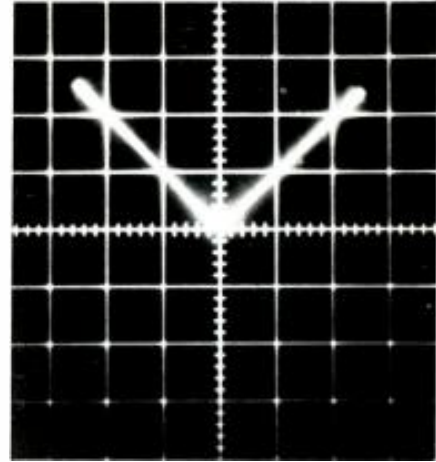
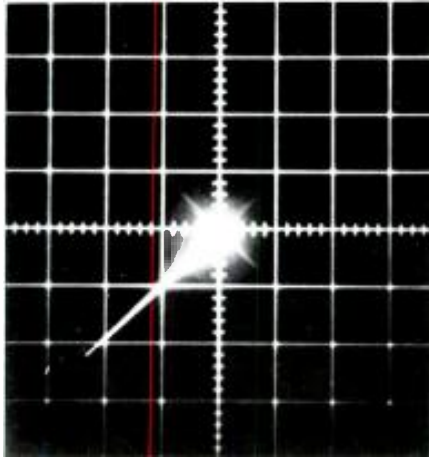

Figure 4: Mono out of phase front (LF and RF) signals only.
Figure 2: A left rear channel signal only.
FIGURE 2 is the display created by a left-back (LB) signal only. With the same signal applied to both the front channels (LF and RF) and no signals on the back channels (LB and RB), the result is a front oriented mono sound (see FIGURE 3). Figure 4 is the same except that the phase is reversed on one front channel. Note the V
FIGURES 2, 3 and 4 illustrate the displays for a single input with either a test tone or program material, fed to one or two channels in and out of phase. These displays are easy to analyze, but with quad program material, the phasing results are far more subtle.